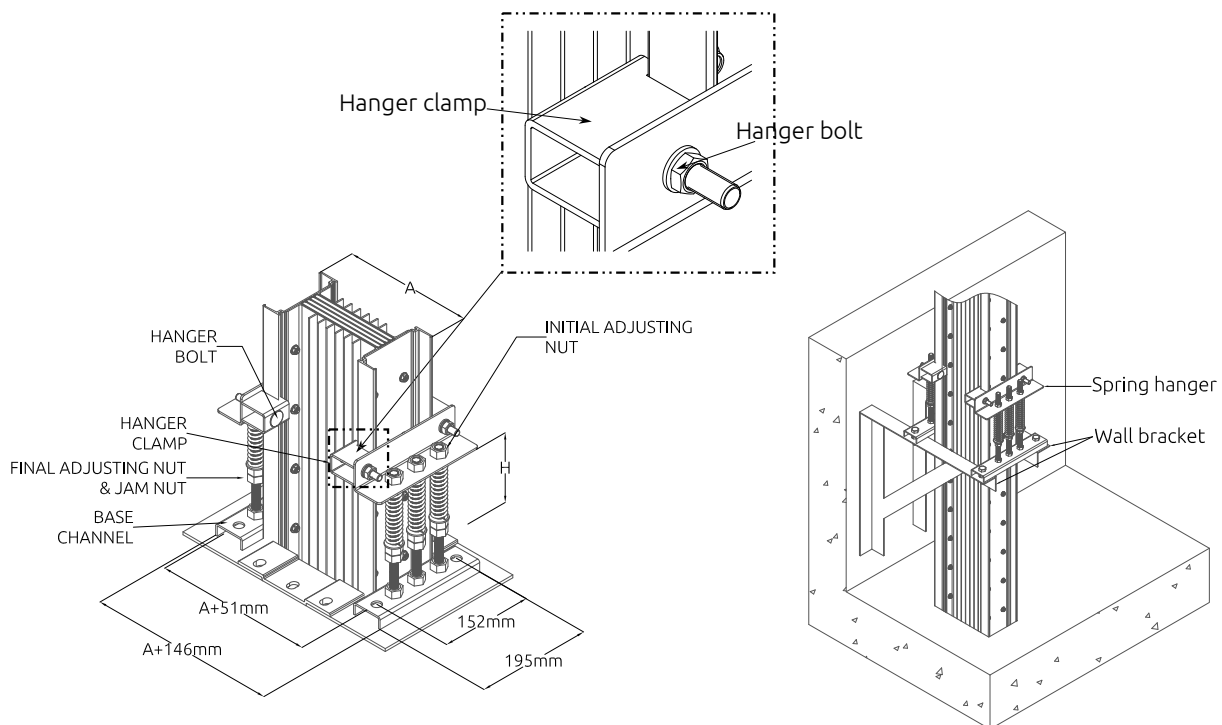

Figure 13.1 Rigid and spring hanger installation
Support busway on maximum 4.8 meter centers. Use Table 14.2 to determine the number of springs required based on busway weight. After placing the length of busway through the floor, follow this procedure to assemble hangers to the busway, as illustrated in Figure 13.1. For convenience in assembly, step 8 may be completed before the hangers are attached to the busway.
1. Loosen the **hanger bolt** , shown in Figure 13.1.
8. If springs are furnished, they must be adjusted as shown in Figure 13.1. Determine the required dimension H of the hanger springs, found on the layout drawing or by using the formula;